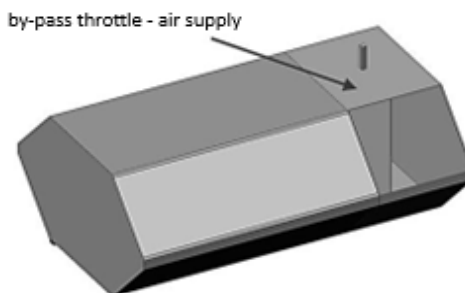

Fig. 29 VEBAR-WP throttle by-pass location
- Integrated by-pass – on supply air without airflow cut off through exchanger (Fig. 29)